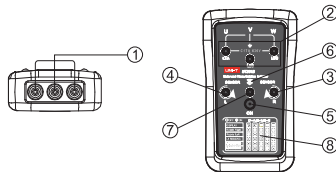

Figure 1
See the instrument indicator, button and jack as shown in Figure 1:
- Place UT261B towards the motor, in parallel with motor shaft. The bottom of the instrument should face the shaft (namely, UT261B is located in a direction contrary to that of the motor). Refer to Figure 1 for motor location indicator.